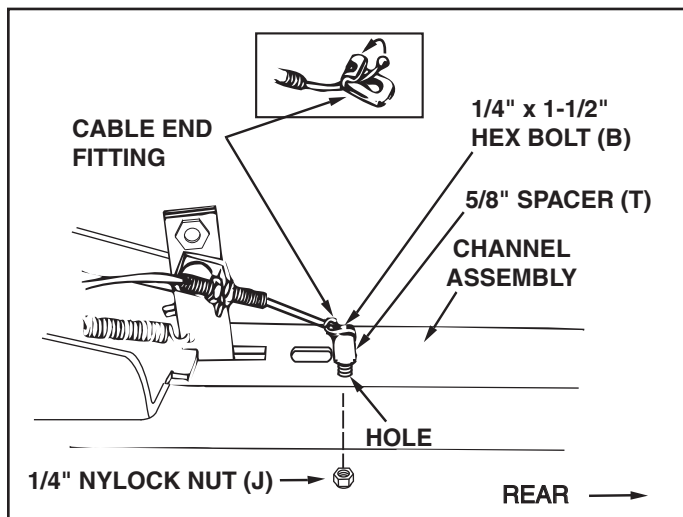

FIGURE 20 (Left Hand Side View)
STEP 6: (SEE FIGURE 20)
- Assemble 1/4" x 1-1/2" (B) hex bolt down through the cable end fitting, the 5/8" long spacer (T) and the left hand hole in the channel assembly. Secure with a 1/4" nylock nut (J). **Tighten.**